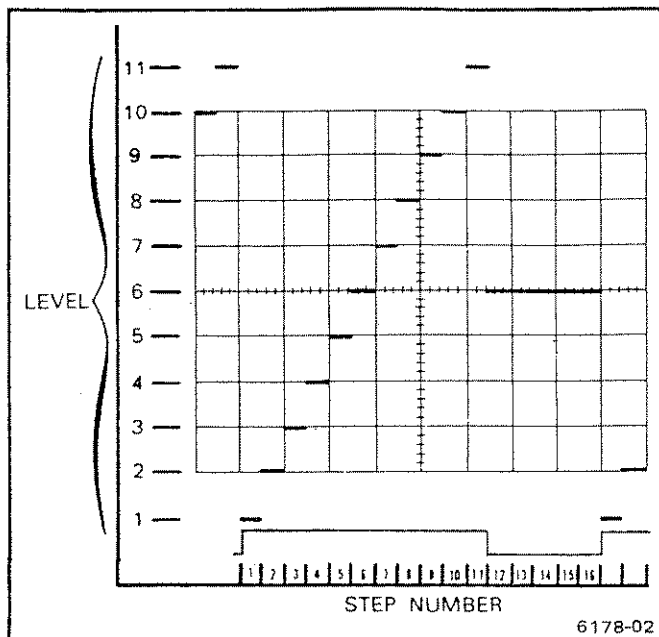

Figure 1-2. Staircase & trigger signals with 067-0587-10.
- e. **CHECK**—That the staircase/trigger signals displayed on your test oscilloscope changes from one trigger per staircase to one trigger per each staircase step. See figures 1-2 and 1-3.